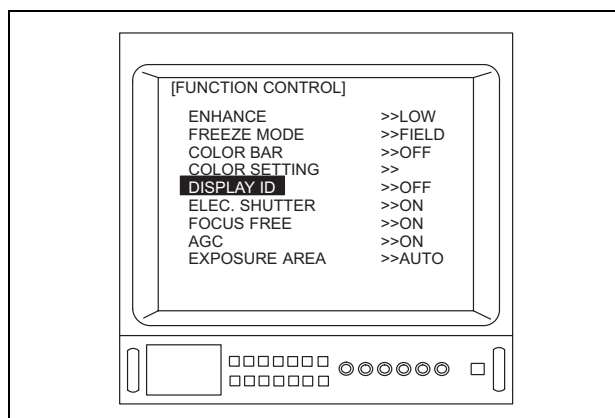

Figure 5.55
5. Depress the menu switch “◀” or the “Enter” key on the keyboard to adjust “DISPLAY ID” (see Figure 5.55).